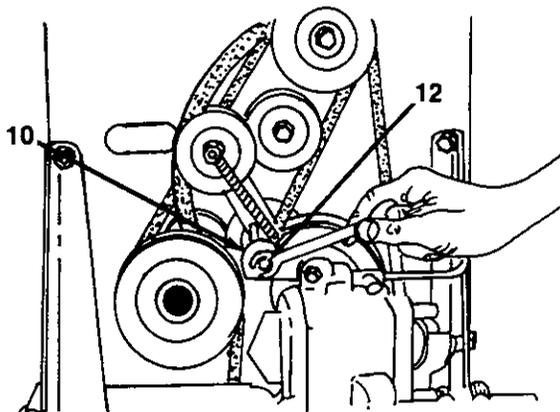

FIGURE 5.
7. Remove the hex bolt which holds the torque rod bracket to the torque rod, and remove bracket. See figure 5.